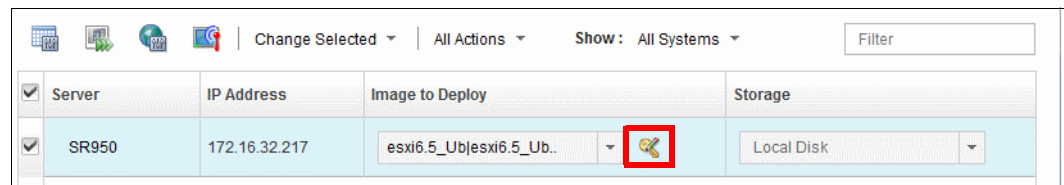

Figure 6-24 License key
7. If a license is required, click the **License Key** icon and specify the license key to use to activate the operating system after it is installed as shown in Figure 6-24.